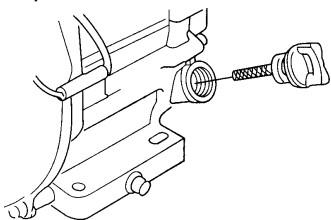

Figure 5. Engine Oil Dipstick (Removal)
2. Remove the filler dipstick from the engine oil filler hole (Figure 5) and wipe clean